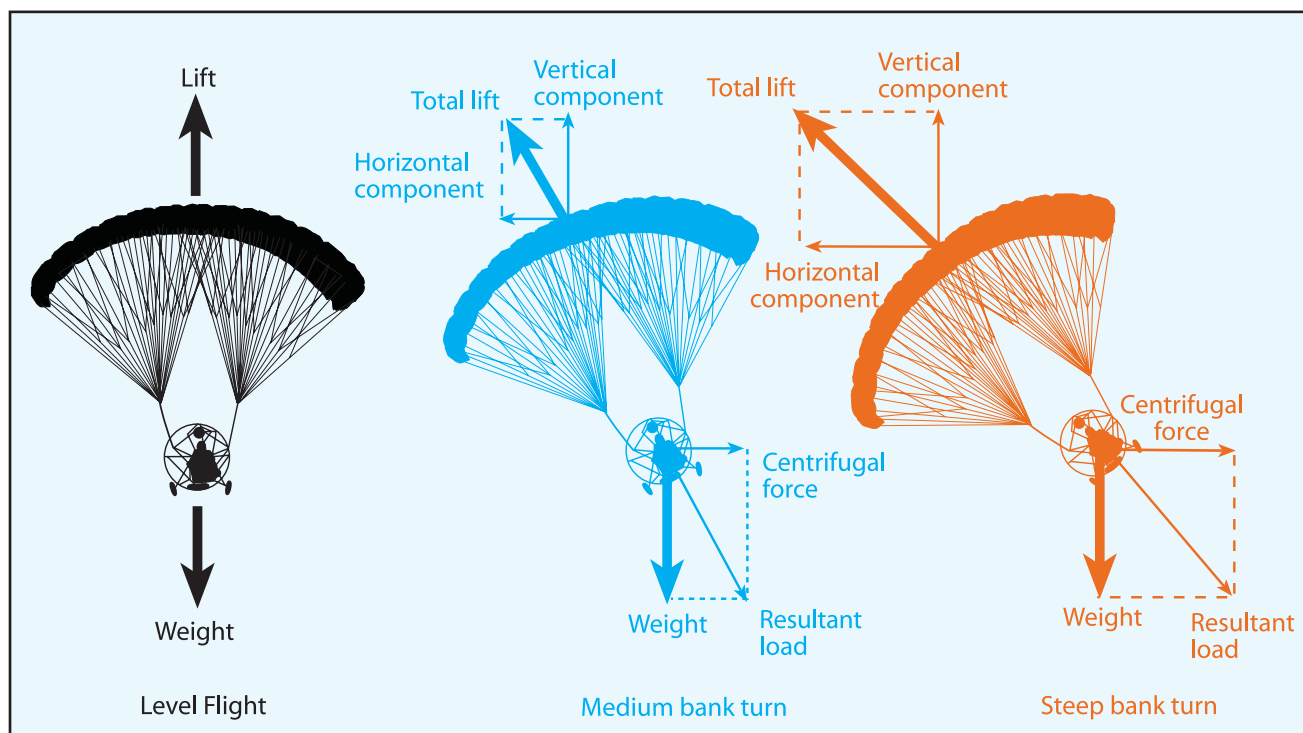

Figure 2-30. Loads and turning forces.
The numbers are small and difficult to measure or feel so the industry rule of thumb is to assume the PPC flies at a constant speed and angle of attack with changes in throttle. However, increased load (weight) and load factor has a significant effect on speed. [Figure 2-30]
- In a banked turn, lift must be increased and load factor goes up. [Figure 2-30]